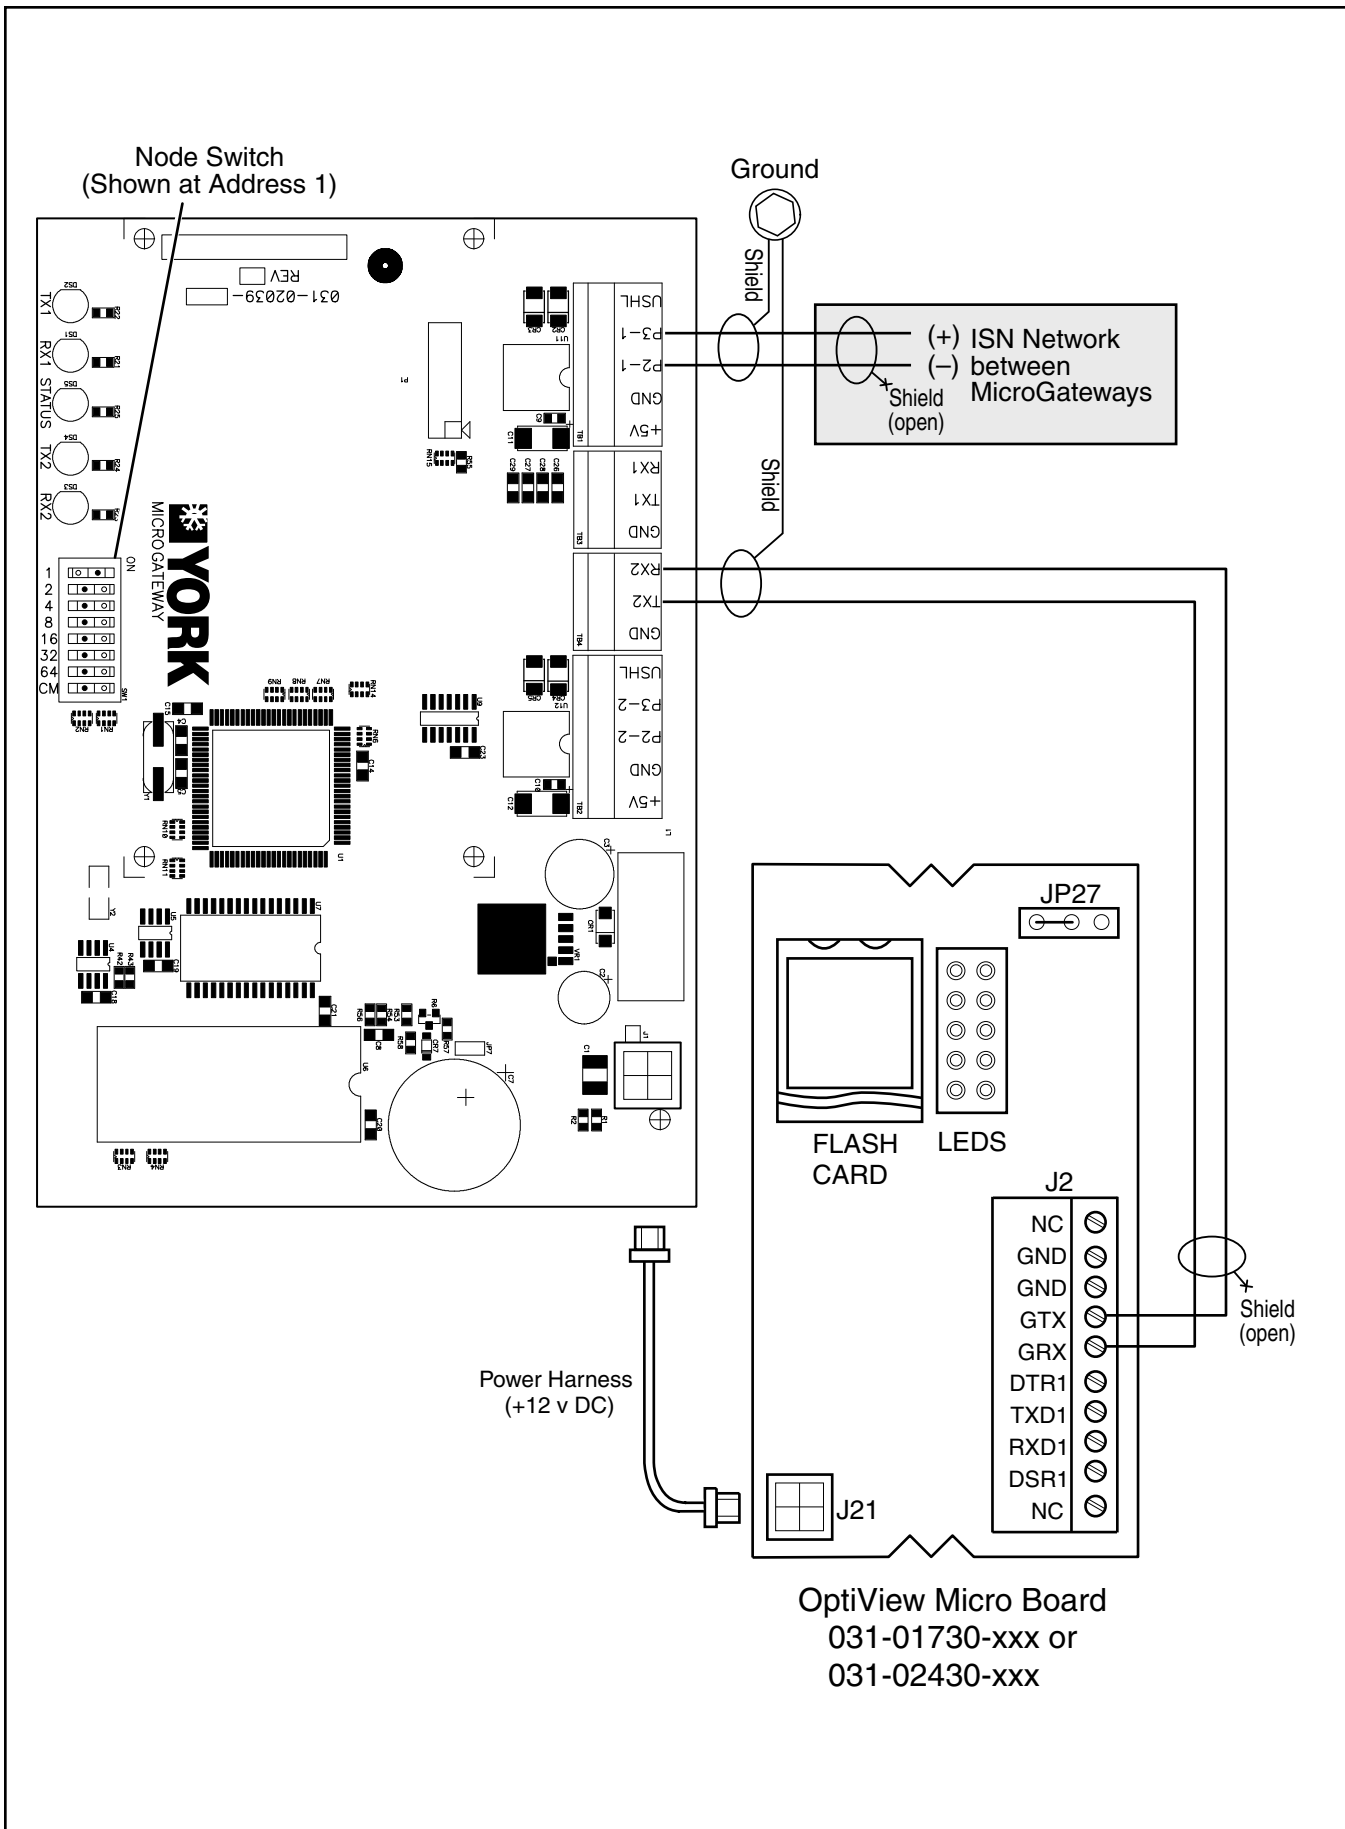

Figure 7. OptiView Connections
7. Ensure jumper J27 is set for RS232 (refer to Figure 7 – OptiView Connections).
8. Connect the power harness (included with the kit) from J1 on the MicroGateway to J21 on the OptiView micro panel. (Refer to Figure 7 for connection details.)